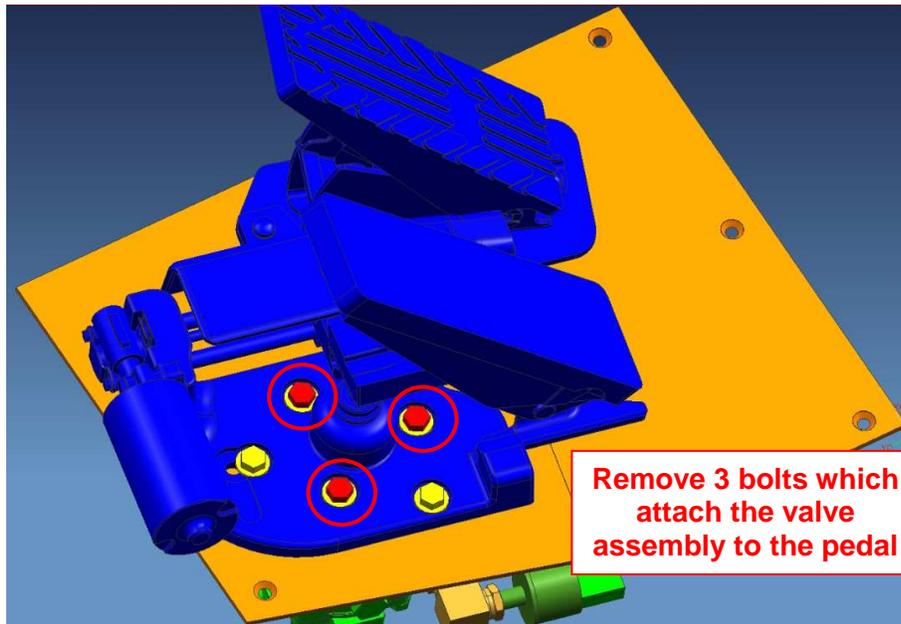

Figure 5: Remove the Valve Assembly
16. Remove 3 bolts which attach the valve assembly to the pedal assembly. Set hardware aside for reuse, See Figure 5.